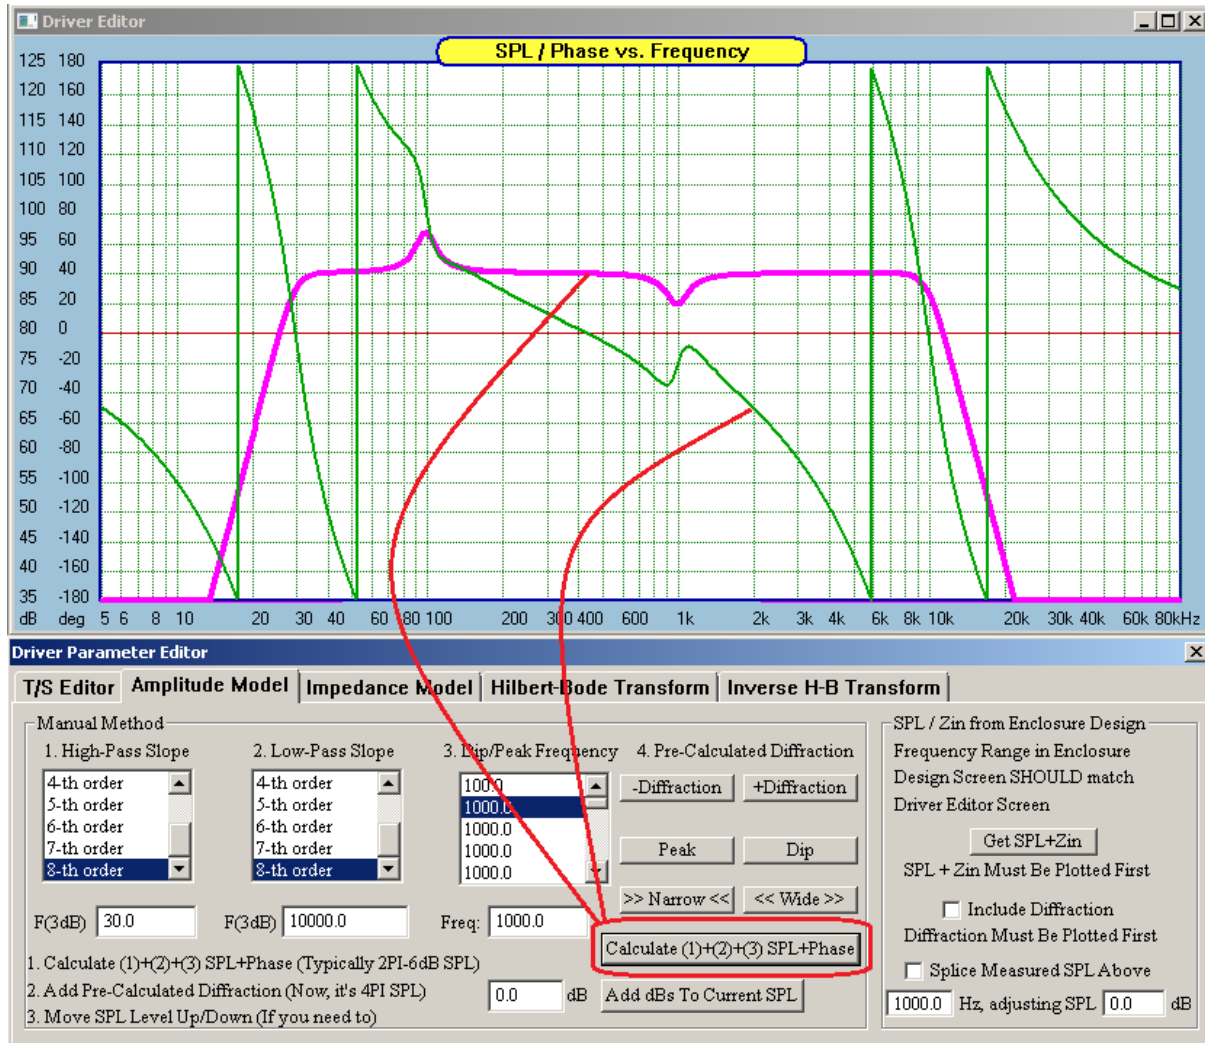

Fig 2.9 Edited SPL with a Dip and a Peak.
This will determine the overall SPL level of the whole curve. Please enter 90.0 in the “Efficiency” data field now. Entering frequency response is accomplished with the help of “Amplitude Model” tab box. The box is shown on Figure 2.9.
After examining the frequency response of the driver, it should be possible to approximately determine the three regions and order of the rising (high-pass) and falling (low-pass) slopes. Having done this, you need to select those orders by clicking left mouse button above the appropriate list box titled “1. High-Pass Slope” and “2. Low-Pass Slope”. The associated cut-off frequencies of the filter approximations need to be entered in the associated data fields below the list boxes. Figure 2.9 shows 2-th and 3-rd orders respectively. The frequency response of our band-pass approximating filter can now be displayed by pressing on “→ ←” (means narrower) or “← →” (means wider) buttons. Next step is to add all small ripples onto the band-pass filter curve. The default values for all **50 available** ripples is 1000.0 and are displayed in the “3. Dip/Peak Frequency” list box. Please click on the first list box item – 1000.0 Hz. This will select the frequency to be edited in the data field available below the list box. Now, edit the frequency by entering the right value, say for the most-left ripple – you will see the value in the list box also changes. Now, you have four buttons available to determine the shape of the ripple: (1) “Peak”, (2) “Dip”, “→ ←” and “← →”. Pressing repeatedly on all four buttons will shape the ripple and automatically re-plot the frequency response. Once the shape of the ripple has been finalized, please click on the second item in the list box and edit the second ripple frequency and determine its shape. Please continue till you are satisfied with the total frequency response.